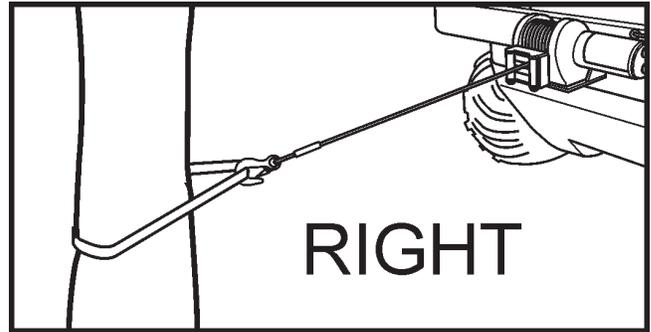
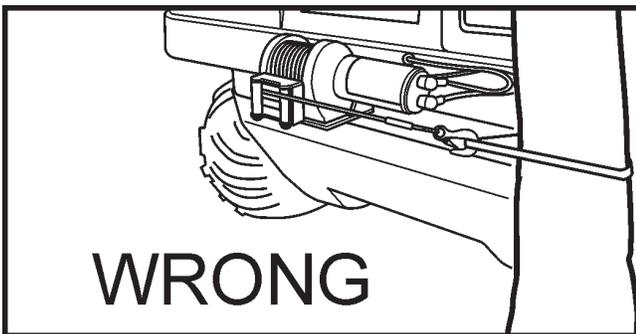

Figure 11-13. Correct positioning for continuous pulls.
Figure 11-12. Incorrect positioning for continuous pulls.
11. Avoid continuous pulls from extreme angles as this will cause the wire rope to pile up at one end of the drum (Figure 11-12 and figure 11-13). This can jam the wire rope in the winch causing damage to the wire rope or the winch itself.